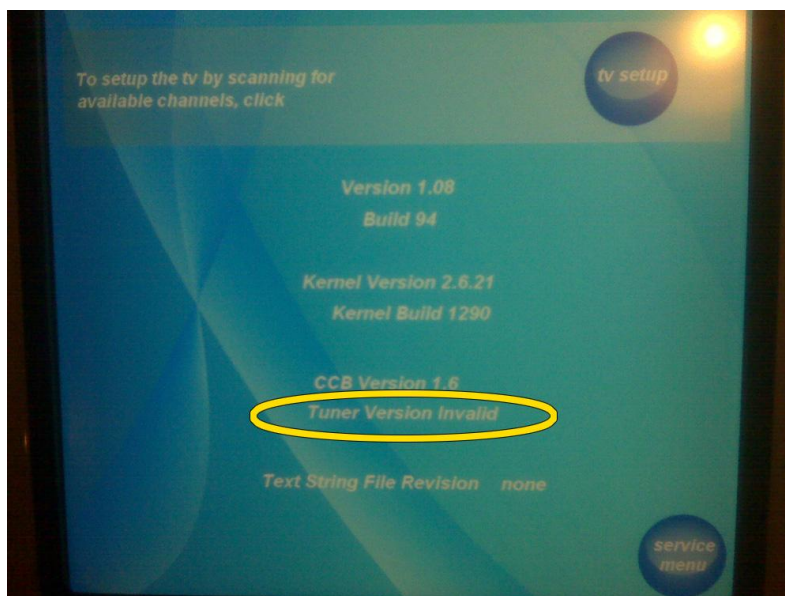

Fig. 11
3) **Symptom:** No channel scan possible / no channel scan option (“Tuner Version Invalid”, Fig. 11).
- II. If it says “Tuner Version Invalid” (Fig. 11) replace the tuner card. See document number 637-1349 for replacement instructions.